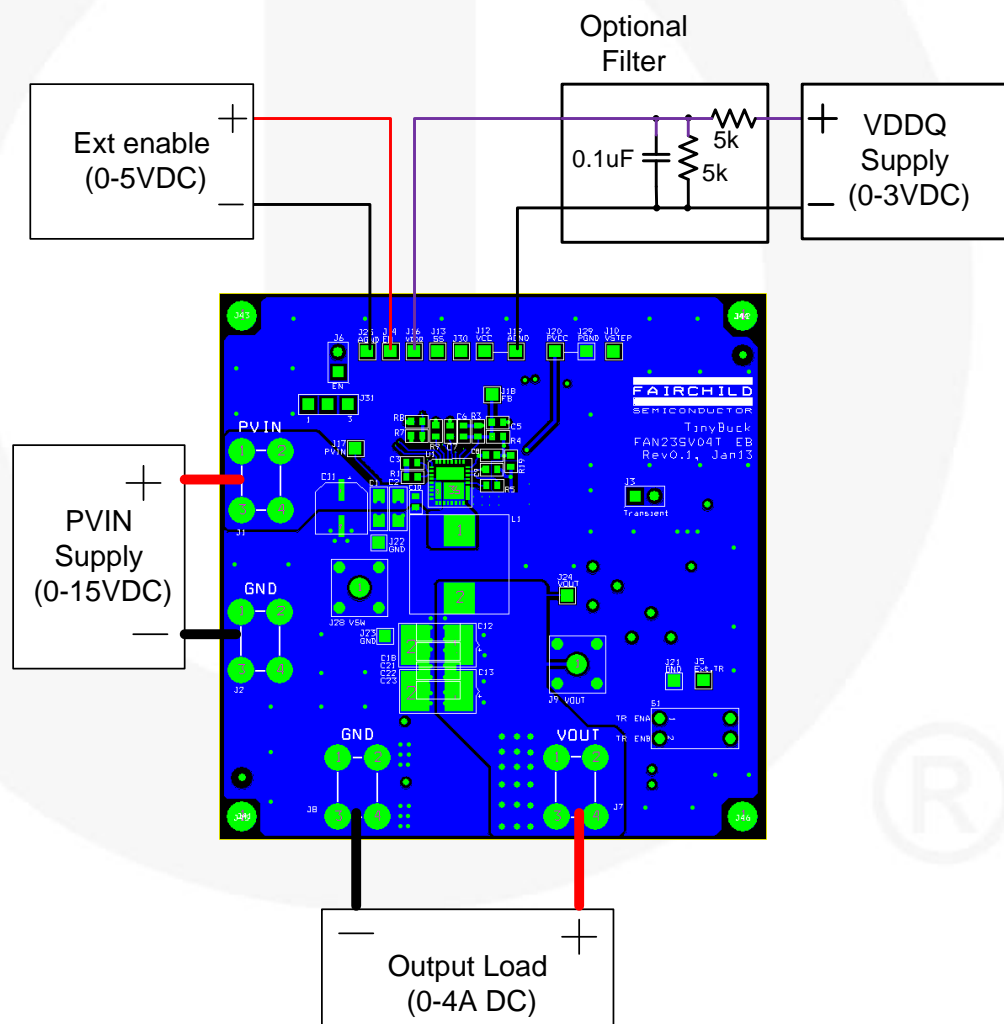

Figure 3. Test Setup for FAN23SV04T Tracking Application
Figure 3 shows an optional filter on the V_{DDQ} (tracking) input. This filter is not required for operation, but is useful to filter the V_{DDQ} supply voltage input, which is used to develop the reference for the output voltage. This can help reduce frequency jitter.
The FAN23SV04T evaluation board can be enabled using an external enable logic signal as shown in Figure 3. R8 can be populated with 1 M Ω to hold EN LOW by default.
1. Set up equipment and board as shown in Figure 3.